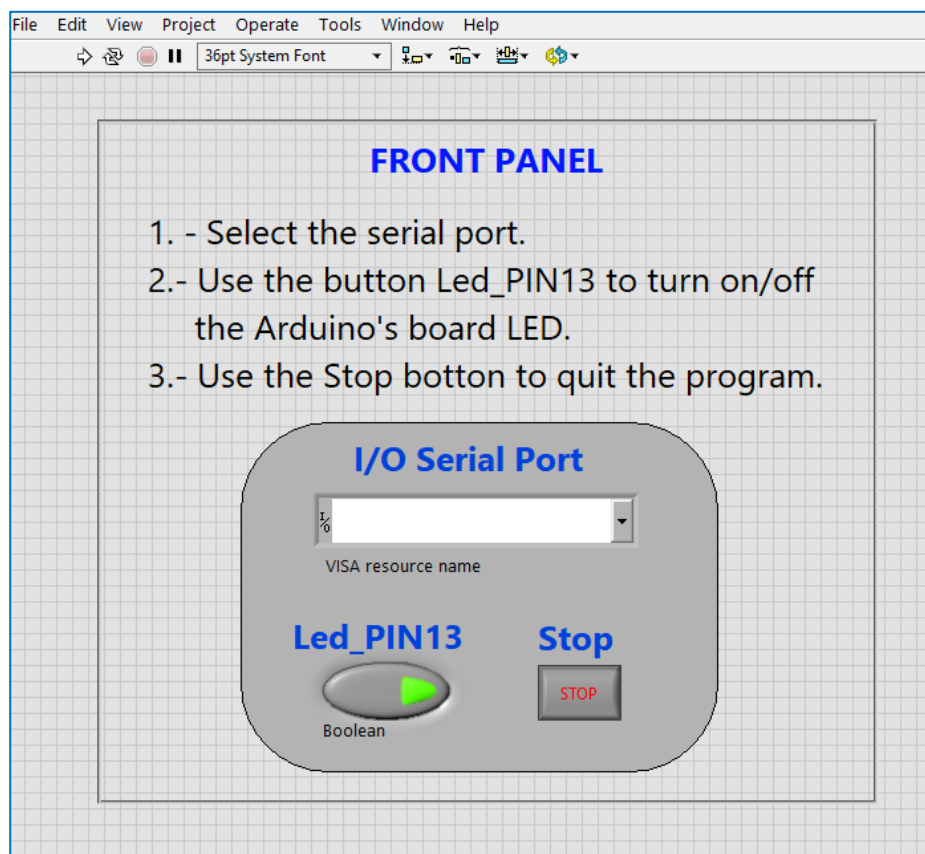

Figure 1. Front panel view
1.- Open a new project in LabView and create your user interface. (Figure 1)